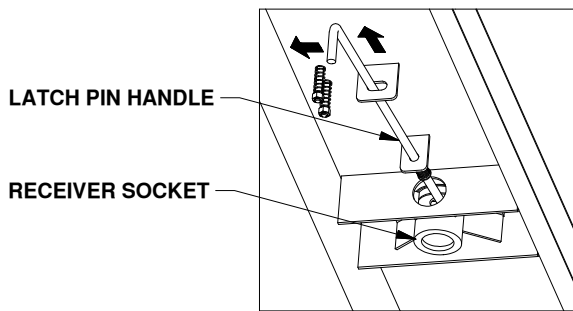

Figure C1: View under truck bed.
2. Locate the latch pin handle of the gooseneck hitch located under the truck bed. Retract the latch pin handle all the way to disengage the pin from the ball, see Figure C1. Remove the 2-5/16" ball from the hitch receiver socket.